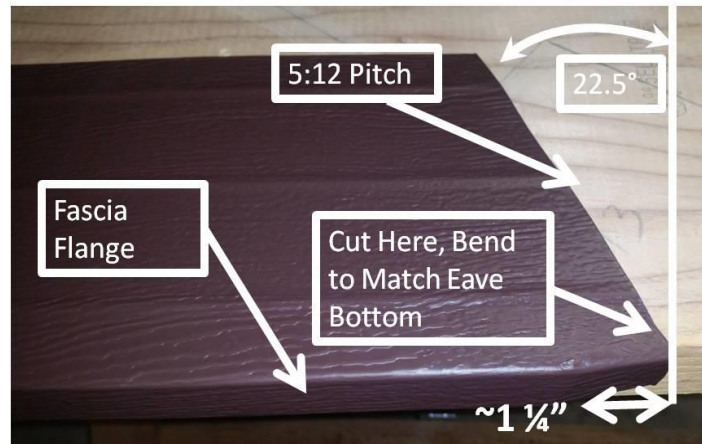

Figure 11-15. Lower Gable Fascia
9. Cut the fascia on this line; once installed, the cut edge will be vertical and will match the eave fascia corner. For reference, the blue scale indicates degrees; a 5:12 pitch aligns with 22.5°. Figure 11-15 shows the resulting piece after being cut to the correct angle.